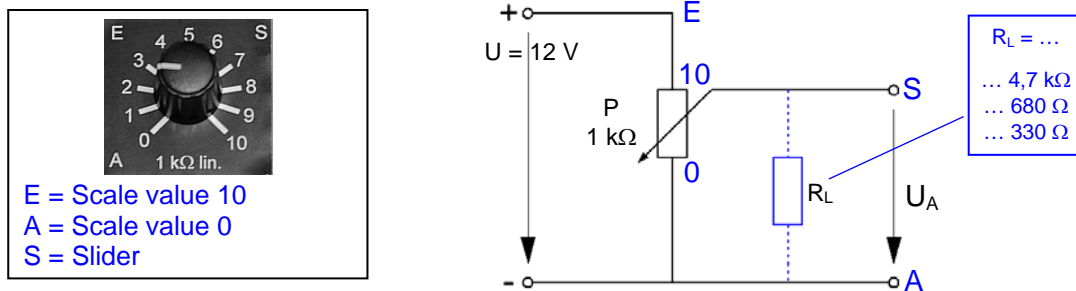

Fig. 3.11.2.3: Potentiometer with loaded output
- Apply a voltage of  $U = 12\text{ V}$  to the input of the potentiometers  $P = 1\text{ k}\Omega$ , as shown in Fig. 3.11.2.3 (check the set value, on a multimeter).